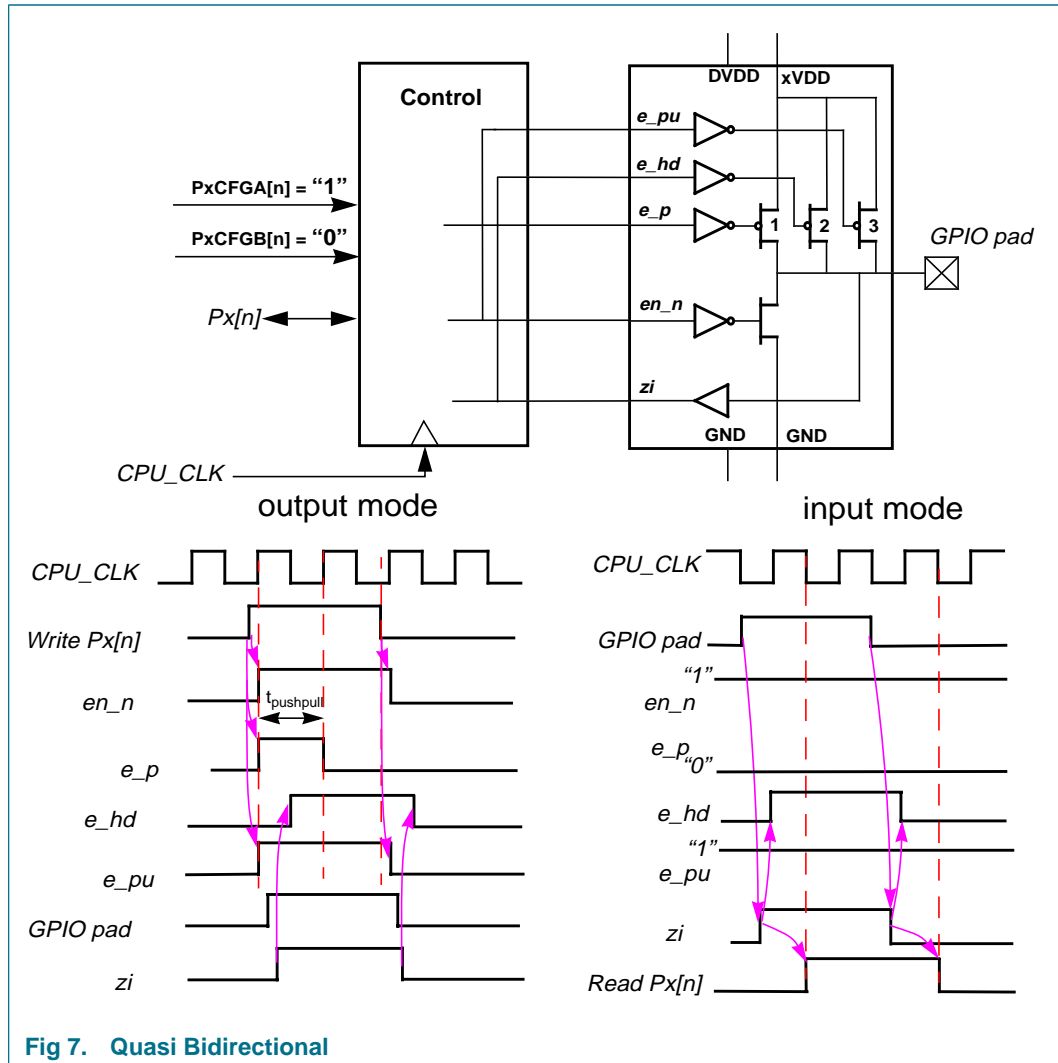

Fig 7. Quasi Bidirectional
**Remark:** When in Hard power down mode, the P72 to P70\_IRQ pins are forced in quasi bidirectional mode. Referring to Figure 7, en\_n = e\_pu = "1", e\_p = "0". And e\_hd = "1" if P7x pin value is "1" and e\_hd = "0" if P7x pin value is "0".
**Remark:** When in Hard power down mode, the P35 to P30 pins are forced in quasi bidirectional mode. Referring to Figure 7, en\_n = e\_pu = "1", e\_p = "0". And e\_hd = "1" if P3x pin value is "1" and e\_hd = "0" if P3x pin value is "0".